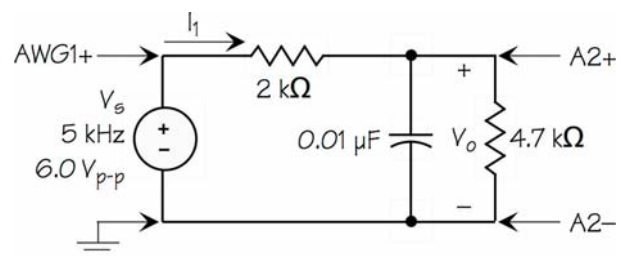

Fig. 1—Circuit setup
Before beginning this lab exercise, you should do some preliminary calculations for the circuit of Fig. 1:
You’ll need Mobile Desktop Studio and the IO Board with four clip leads attached (A2+, A2–, and AWG1 and its ground), plus the parts shown in Fig. 1.
2. Build the circuit of Fig. 1 on your breadboard, including the connections to the IO Board.